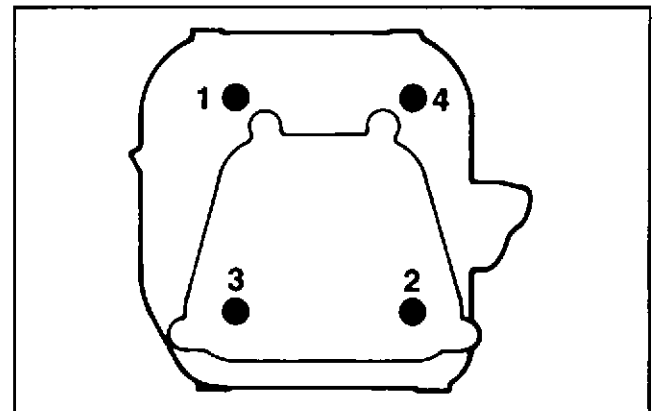

Figure 11-20. Cylinder Head Fastener Tightening Sequence.
2. Install the cylinder head and tighten the hex. flange screws in several increments in the sequence shown in Figure 11-20 to **22.6 N•m (200 in. lb.)**.